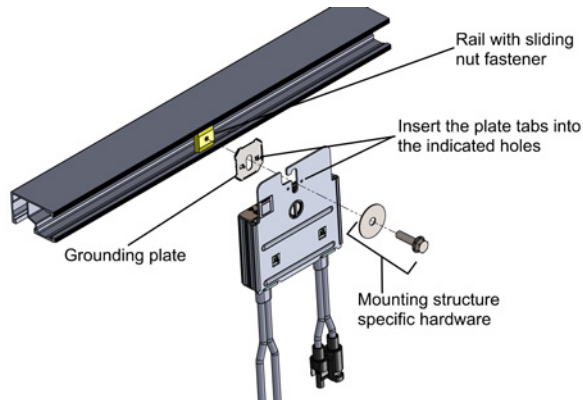

Figure 7: Power optimizer installation and grounding using a grounding plate
- For mounting on rails with sliding nut fasteners:** If the star washer cannot be used, use the SolarEdge grounding plate (purchased separately) between the railing and the flat side of the mounting bracket. Use mounting specific hardware as needed. Apply torque of 9.5 N*m / 7 lb*ft. See Figure 7